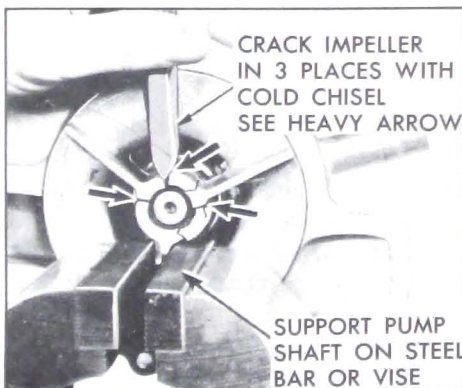

Figure 2-41—Cracking Water Pump Impeller
1. Support impeller and shaft on anvil or in vise to avoid any shock or thrust load on bearing when impeller is cracked. Crack impeller in two or three places with chisel. See Figure 2-41.